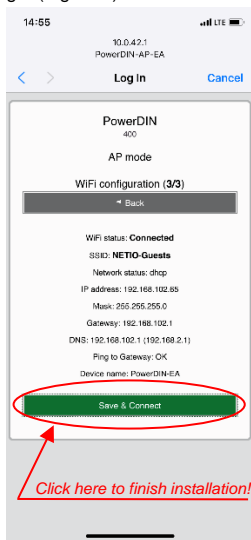
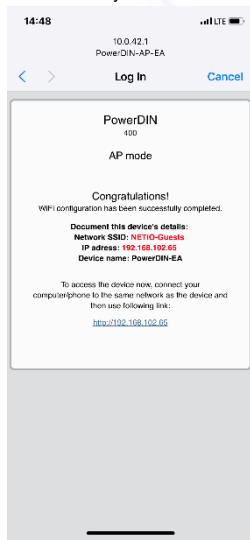

Figure 5
Figure 6
- 6) A page with the connection result is displayed. If it shows “WiFi status: Connected”, check the network parameters and then click “**Save&Connect**” to save the configuration. (Figure 5) The device then exits the AP mode, connects to the selected WiFi network, and displays a network configuration summary page. (Figure 6) WiFi connection is indicated with the yellow LED.